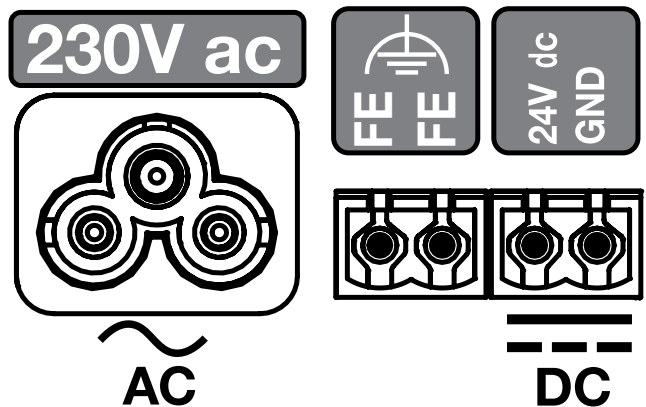

Fig. 5.8 - Connections CM
1. Attach the connector of one 230 V AC power supply cable (Fig. 5.8, pos. 13) or one 24 V DC SELV power supply cable (Fig. 5.8, pos. 11).
2. Connect one end of the ComfoNet RJ45 cable to the RJ45 socket (Fig. 5.8, pos. 10) of the CM. Connect the other end of this ComfoNet-RJ45 cable to a ComfoNet-RJ45 socket (Fig. 5.10, pos. 3) of the first VM (Fig. 5.9, pos. 1).
2. Connect the internal Modbus (Fig. 5.8, pos. 10) with the internal Modbus (Fig. 5.8, pos. 10) of the next CM in the series.
2. Connect the internal Modbus (Fig. 5.8, pos. 10) with the internal Modbus (Fig. 5.8, pos. 10) of the next CM-connect in the series.